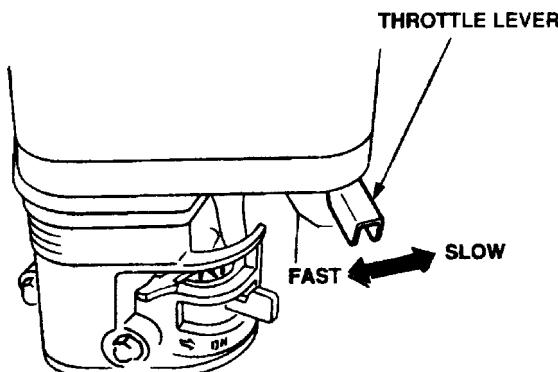

Figure 21. Throttle Lever
5. Rotate the **throttle lever** (Figure 21) halfway between **fast** and **slow** for starting. All sawing is done at **full throttle**. The engine governor speed is factory set to ensure optimum blade operating speeds.
9. Rotate the throttle lever (Figure 21) toward full throttle.